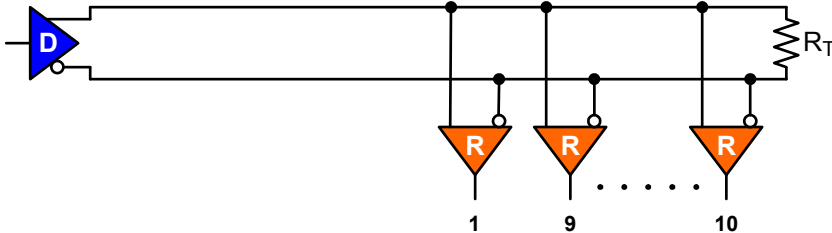

Figure 1. RS-422 Multidrop Bus: One Driver and up to 10 Receivers
- Figure 1. RS-422 Multidrop Bus: One Driver and up to 10 Receivers 2
RS-422 is a unidirectional, multidrop network, allowing for the use of a single driver with an output signal that can be *dropped* at multiple (up to 10) receiver nodes (see Figure 1).